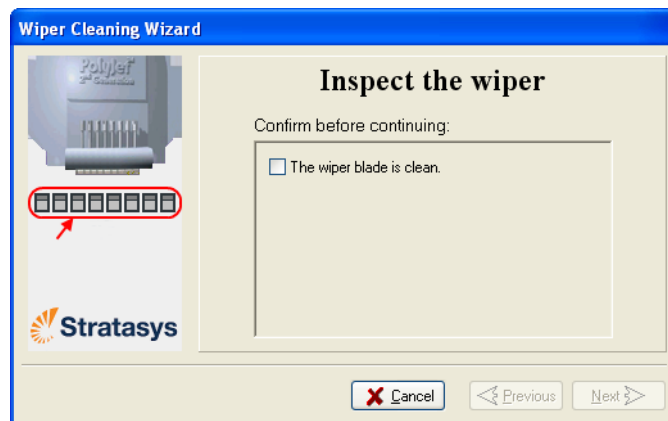

Figure 6-29: Wiper Cleaning wizard during steps 6–9
9. In the wizard screen (see figure 6-29), confirm that the wiper blade is clean, and click Next.